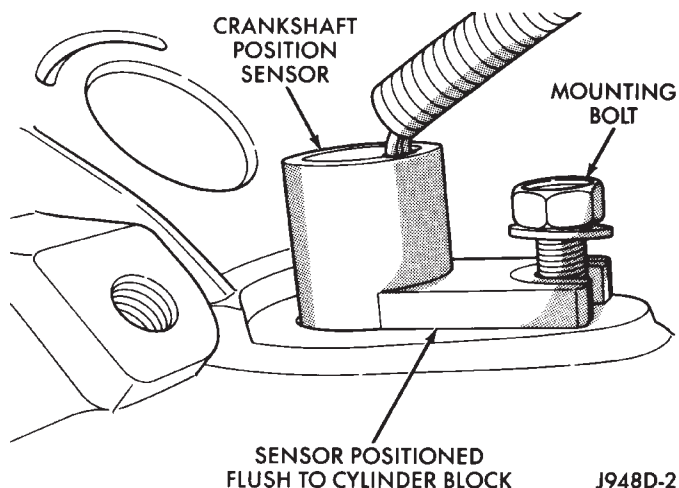

Fig. 48 Sensor Removal/Installation—8.0L V-10 Engine
- (1) Raise and support vehicle.
- (2) Disconnect sensor pigtail harness from main engine wiring harness.
- (3) Remove sensor mounting bolt (Fig. 48).
(Fig. 48). If sensor is not flush, damage to sensor mounting tang may result.